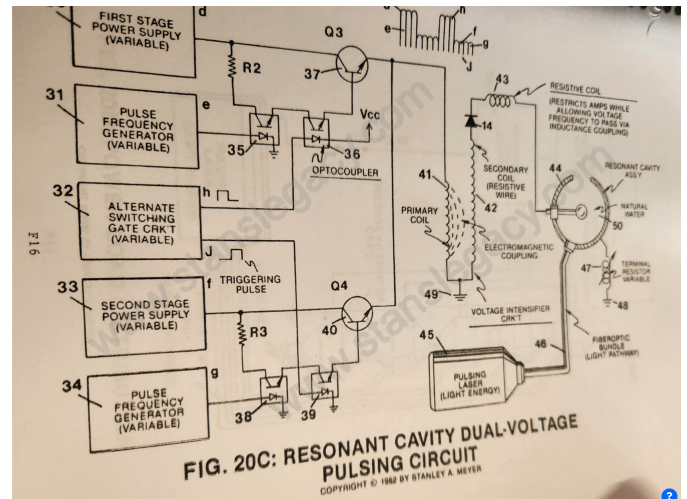

Figure 20C
Integrating dual-pulsing circuit (33) (34) (38) (39) (40) to voltage intensifier circuit (Figure 9) previously described), as shown in Figure 20C.